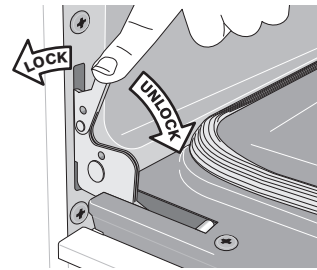

Figure 6: Door hinge locks
2. Pull the door hinge locks on both left and right door hinges down from the oven frame completely towards the oven door (See Figure 6). A tool such as a small flat-blade screwdriver may be required.
4. Push the door hinge locks up towards and into the oven frame on both left and right oven door hinges to the locked position (See Figure 6).